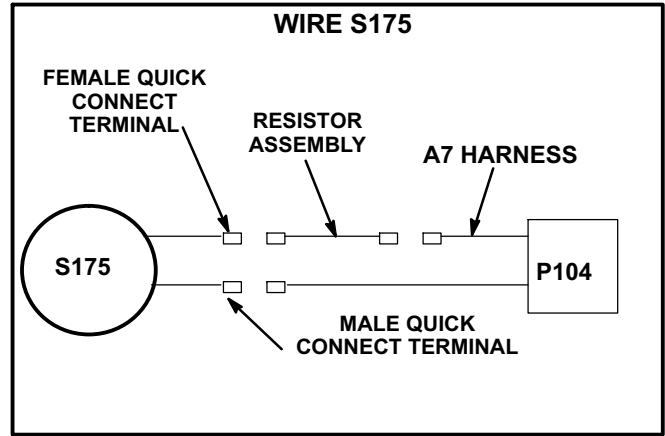

FIGURE 7
- 3- Make wiring connections as shown in figure 7. Secure harness with wire tie provided in kit.